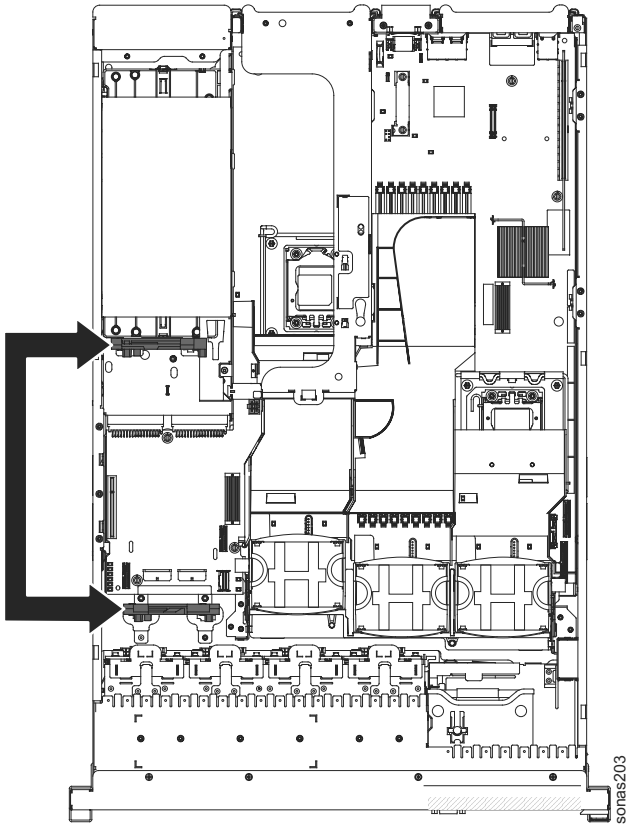

Figure 22. Controller retention brackets on 16-drive-capable server model
- a. If you are replacing a ServeRAID-BR10il v2 SAS/SATA controller with a ServeRAID-M5015/M5014 SAS/SATA controller, you must swap the controller retention brackets to fit the new SAS controller. See Figure 22 on page 122.